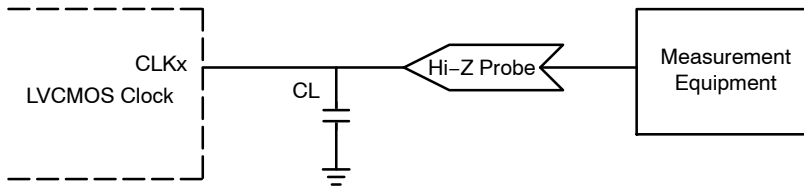

Figure 6. LVC MOS Parameter Measurement
5. Measurement taken with single ended clock outputs terminated with test load capacitance of 5 pF and 15 pF. See Figure 6.